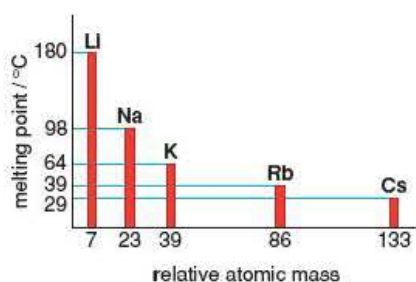

Figure 4.4 The melting points of the alkali metals.
- Their melting points and boiling points are unusually low (Figure 4.4).
Figure 4.4 shows the steady change in the melting points of the alkali metals.